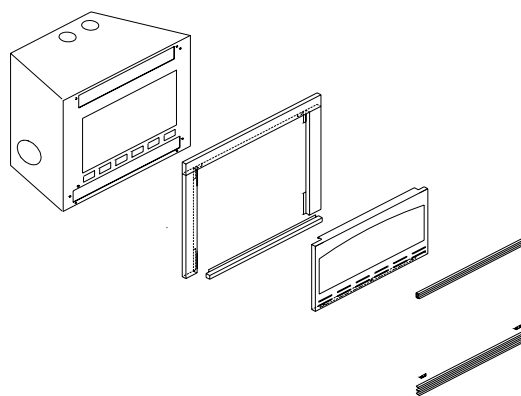

Figure 16- Face Trim Installation
7. See Figure 16 for an exploded view of the face pieces and their proper locations.